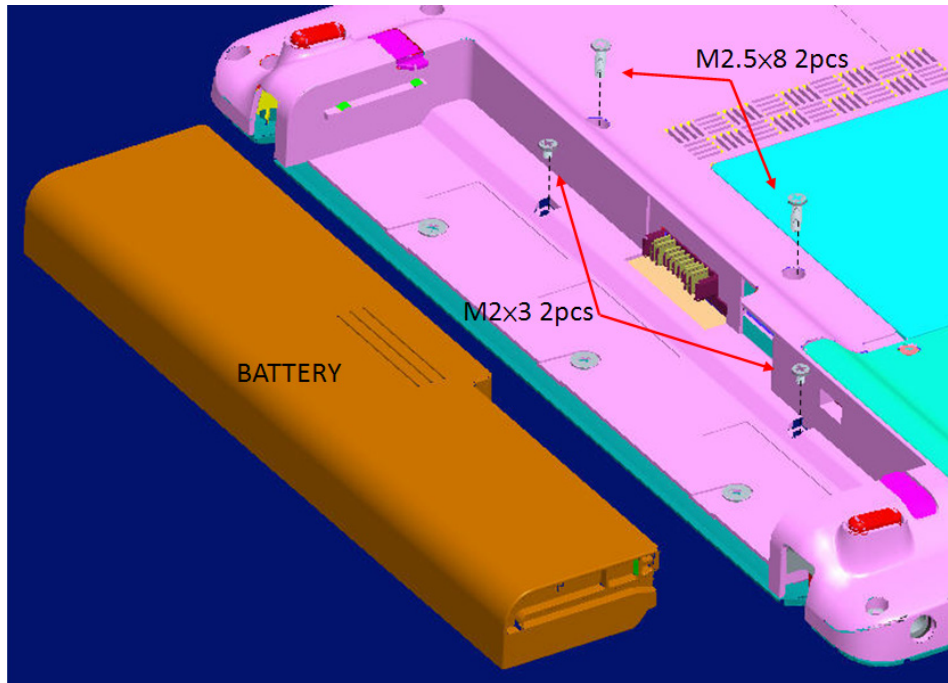
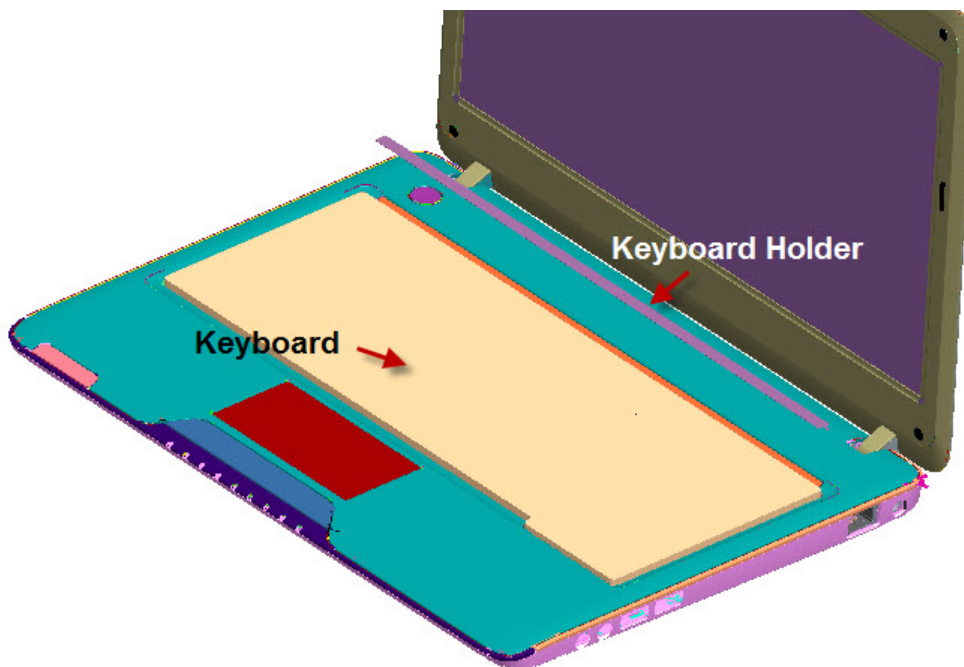

Figure 4-5-1 Remove 2 screws for KB Holder
Figure 4-5-2 Remove Keyboard Holder and Keyboard
The following describes the procedure for removing the keyboard (See Figure 4-5-1 to 4-5-2).
5. Disassemble **KB Holder** and **KB** (See Figure 4-5-1 to Figure 4-5-2)